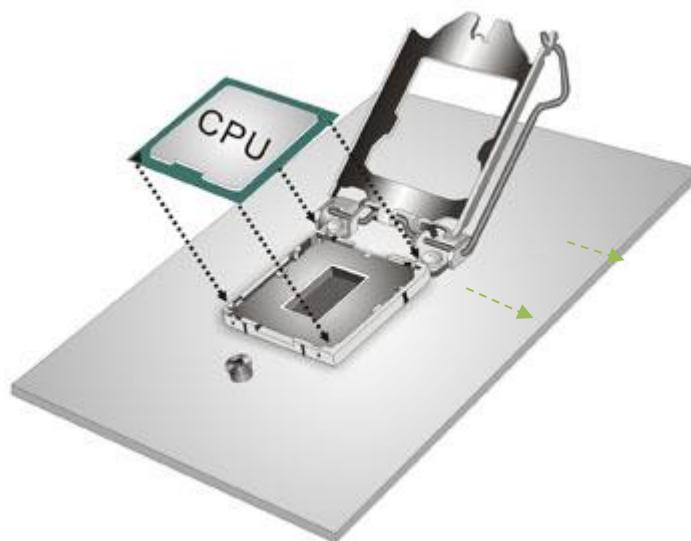

Figure 4-5: Insert the Socket LGA1200 CPU
Step 7: **Insert the CPU.** Gently insert the CPU into the socket. If the CPU pins are properly aligned, the CPU should slide into the CPU socket smoothly. See **Figure 4-5.**